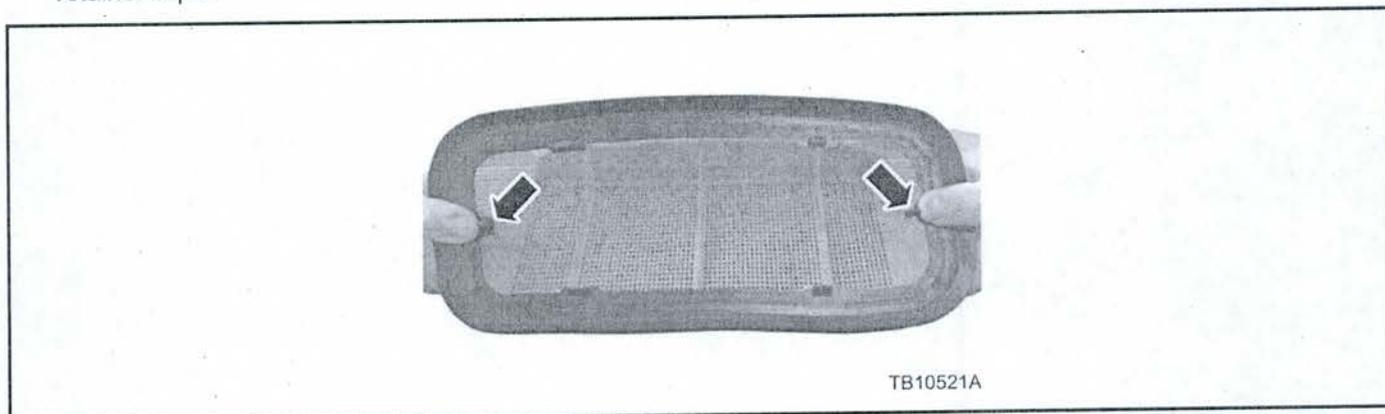

Figure 1 - Article 14-0021
4. Install the new screen assembly. (Figure 1)